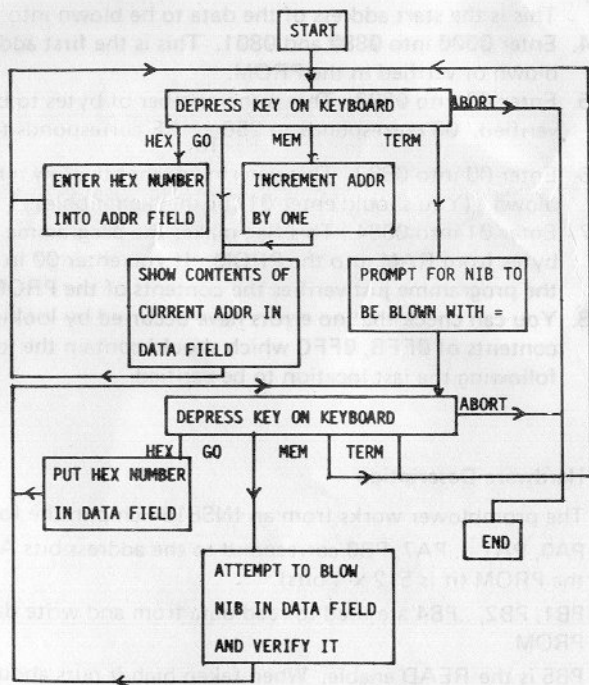

fig. 1
1. The prom-editor programme behaves in a similar way to the MK14 monitor. It enables you to read the contents of a selected location in the PROM (which is assumed to fill the address space 0000 to 01FF and also to blow the contents of a given address. This is useful for checking the contents of a PROM or for making minor adjustments. The programme is 94 bytes long and is relocatable. A suitable location is 0F20 to 0FB4. See figure 1 for a description of its operation.